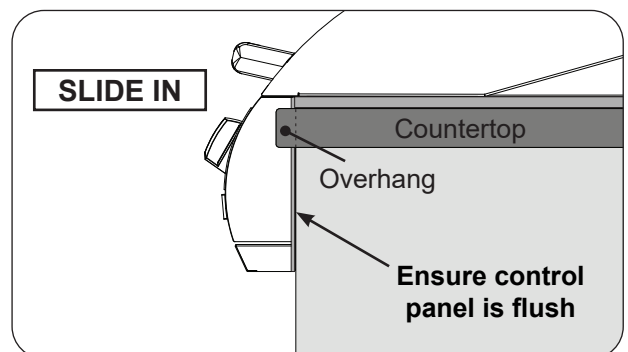

Fig. 26-3 Slide in unit (ensure flush)
- Ensure the unit fully slides in so that the control panel sits flush against the enclosure front wall. See the COUNTERTOP OVERHANG section in ENCLOSURE REQUIREMENTS for details. See Fig. 26-3.